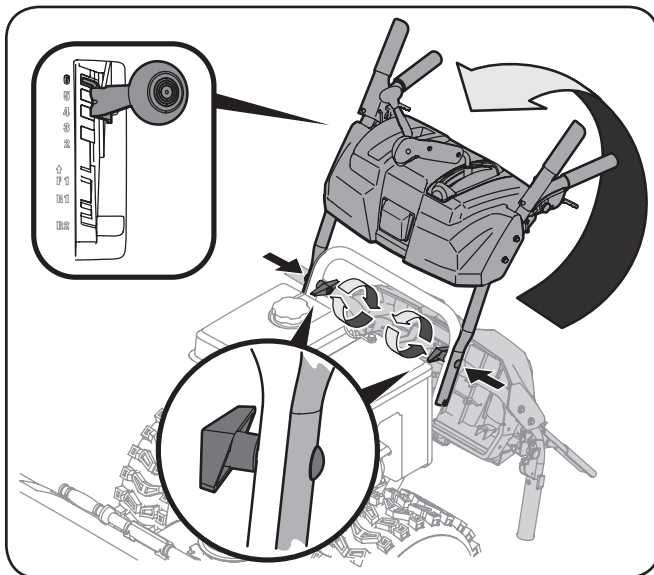

Figure 3-1
2. Observe the lower rear area of the snow thrower to be sure both cables are aligned with roller guides before pivoting the handle upward. Pivot the handle upward. See Figure 3-1.